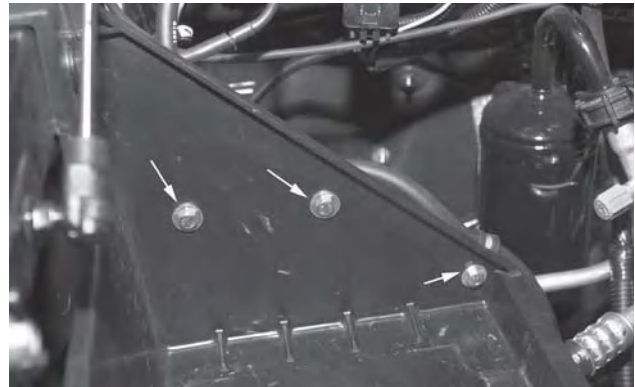
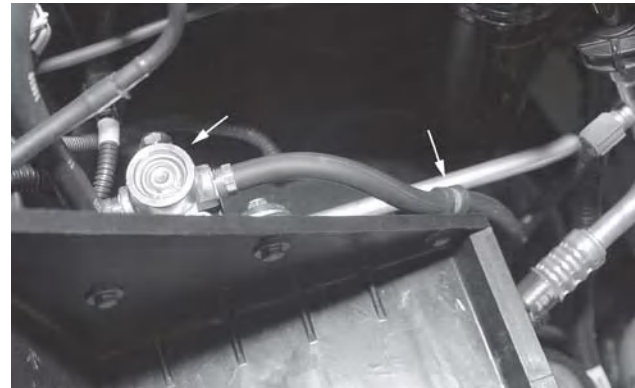

Fig. 10a
Fig. 10b
- b. Install p-clip supplied in the kit onto the hose. Route the end of the hose from the actuator to the end of the battery tray. Loosely mount the p-clip to the battery tray using the M6 X 19 mm capscrew, flat washer and lock nut provided in the kit. (see figures 10a and 10b). The head of the capscrew should be inside battery tray as shown in figure 10b.
- c. Route the end of the hose to the solenoid's #2 port (straight fitting) as shown in figure 10b.
- d. Trim the hose to length and attach the hose to the solenoid's #2 port fitting. No clamp is required for this end. (see figure 10b)